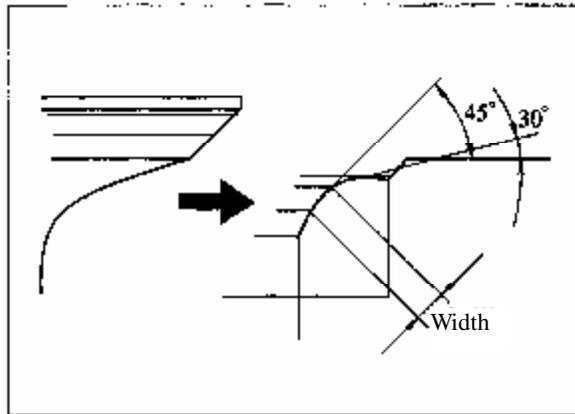

Figure 3-12 Grinding the Valve Seat with 30° and 45° mill
- (1) If the contact annulus is on top of the valve cone, grind the valve seat with 30° and 45° mill (see figure 3-12).